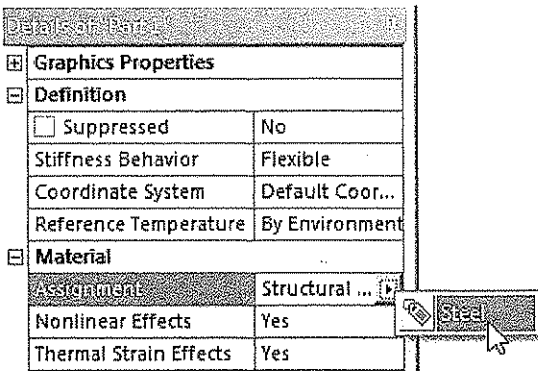

Figure 6-18 Selecting the Steel option from the drop-down list
- 5. Next, click on the right arrow on the right of **Assignment**; a drop-down list is displayed, as shown in Figure 6-18.